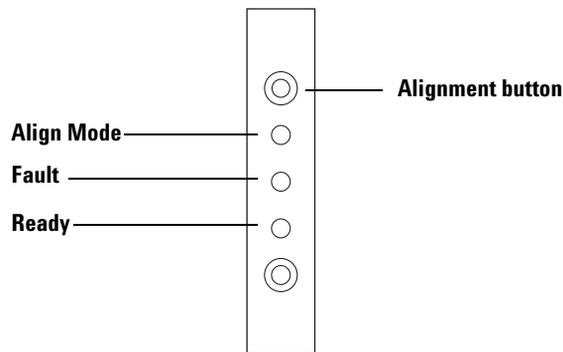

Figure 105 Aligning the Tower
- 4 Use a long, narrow object to press the recessed **Alignment** button above the indicator lights. Avoid contact with anything behind or around the button inside the recessed hole (Figure 105).